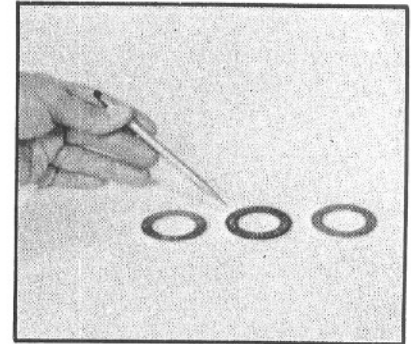

Figure 88
8. Inspect the thrust bearing rollers (12) for any deterioration. Inspect the two thrust washers (11) for brinelling, spalling, or cracks (FIG. 88). Replace any part if you detect these conditions.